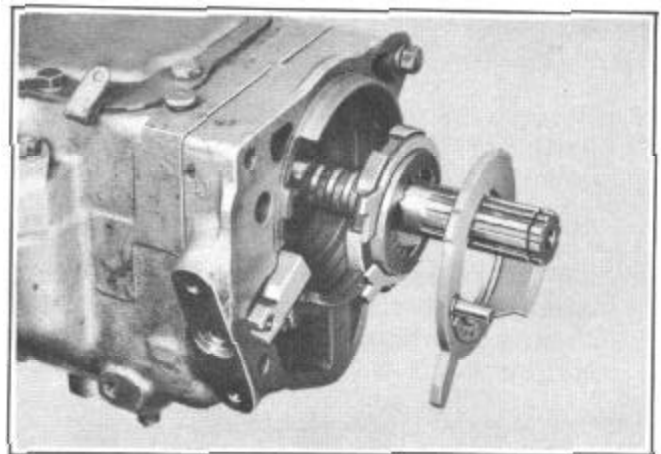

FIGURE 19
9. The retainer plate, the sun gear, control plate and blocker assembly, and the pawl can then be removed, Figure 19.